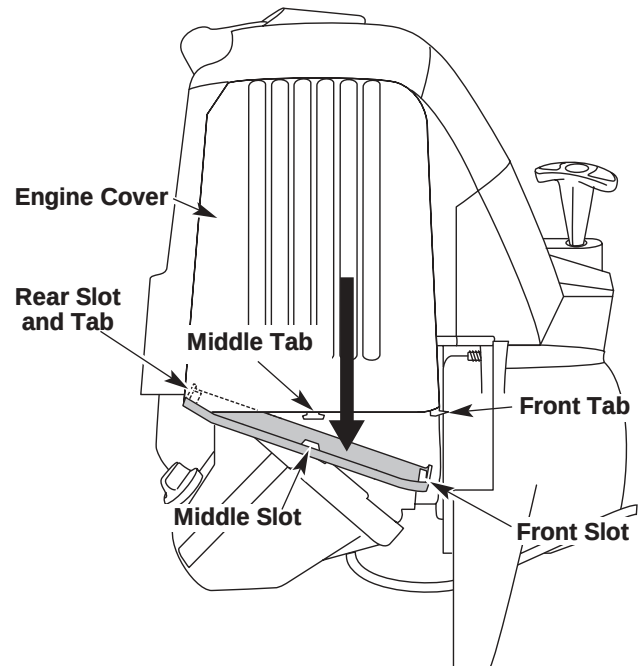

Fig. 50
1. Remove the muffler cover by pressing down on it, separating it from the engine cover. Using a flat blade screwdriver, disengage the middle and front tabs and slots first. The cover will hinge off from the rear tab (Fig. 50).
13. Reinstall the muffler cover. Slip the rear tab on the muffler cover into the engine cover rear slot. Then slide the remaining slots into the taps until they snap into place (Fig. 50).